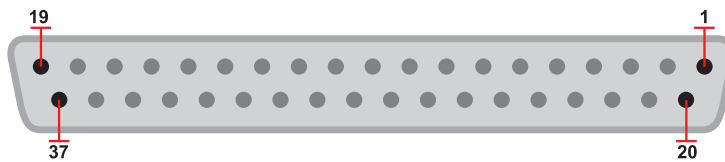
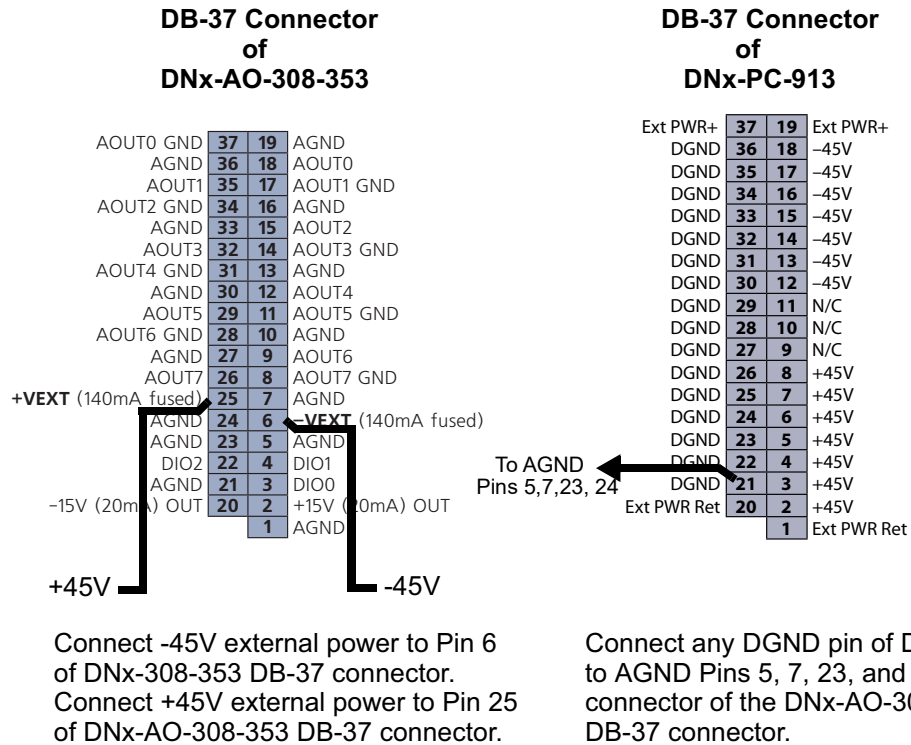

Figure 1-3. Pinout of the AO-308-353
Figure 1-4. DNx-PC-913 and AO-308-353 Interconnection Diagram
The pinout of the 37-pin connector for the AO-308-353 board is shown in **Figure 1-3**. A diagram for using the PC-913 for supplying external power to the AO-308-353 is shown in **Figure 1-4**.
- 1.6.1 Interconnecting a DNx-AO-308-353 and a DNx-PC-913** Using an AO-308-353 with a DNx-PC-913 as the $\pm 45V$ external power supply requires interconnections between the two boards as shown in **Figure 1-4** below.